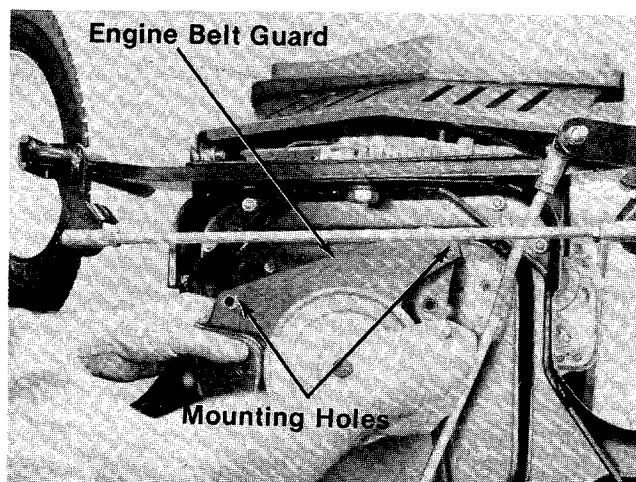

FIGURE 32.
8. Remove the engine belt guard by removing the two front engine mounting bolts. See figure 32.